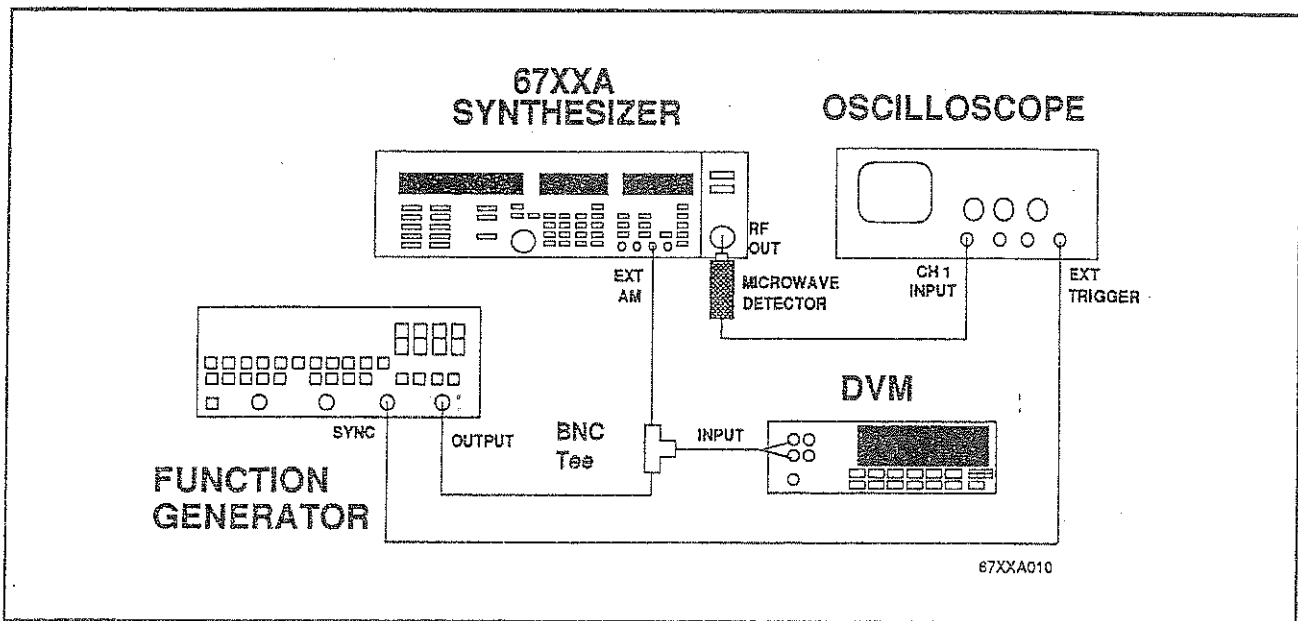

Figure 3-8. Test Equipment Setup for ALC Bandwidth Calibration
1. Connect the equipment as shown in Figure 3-8.